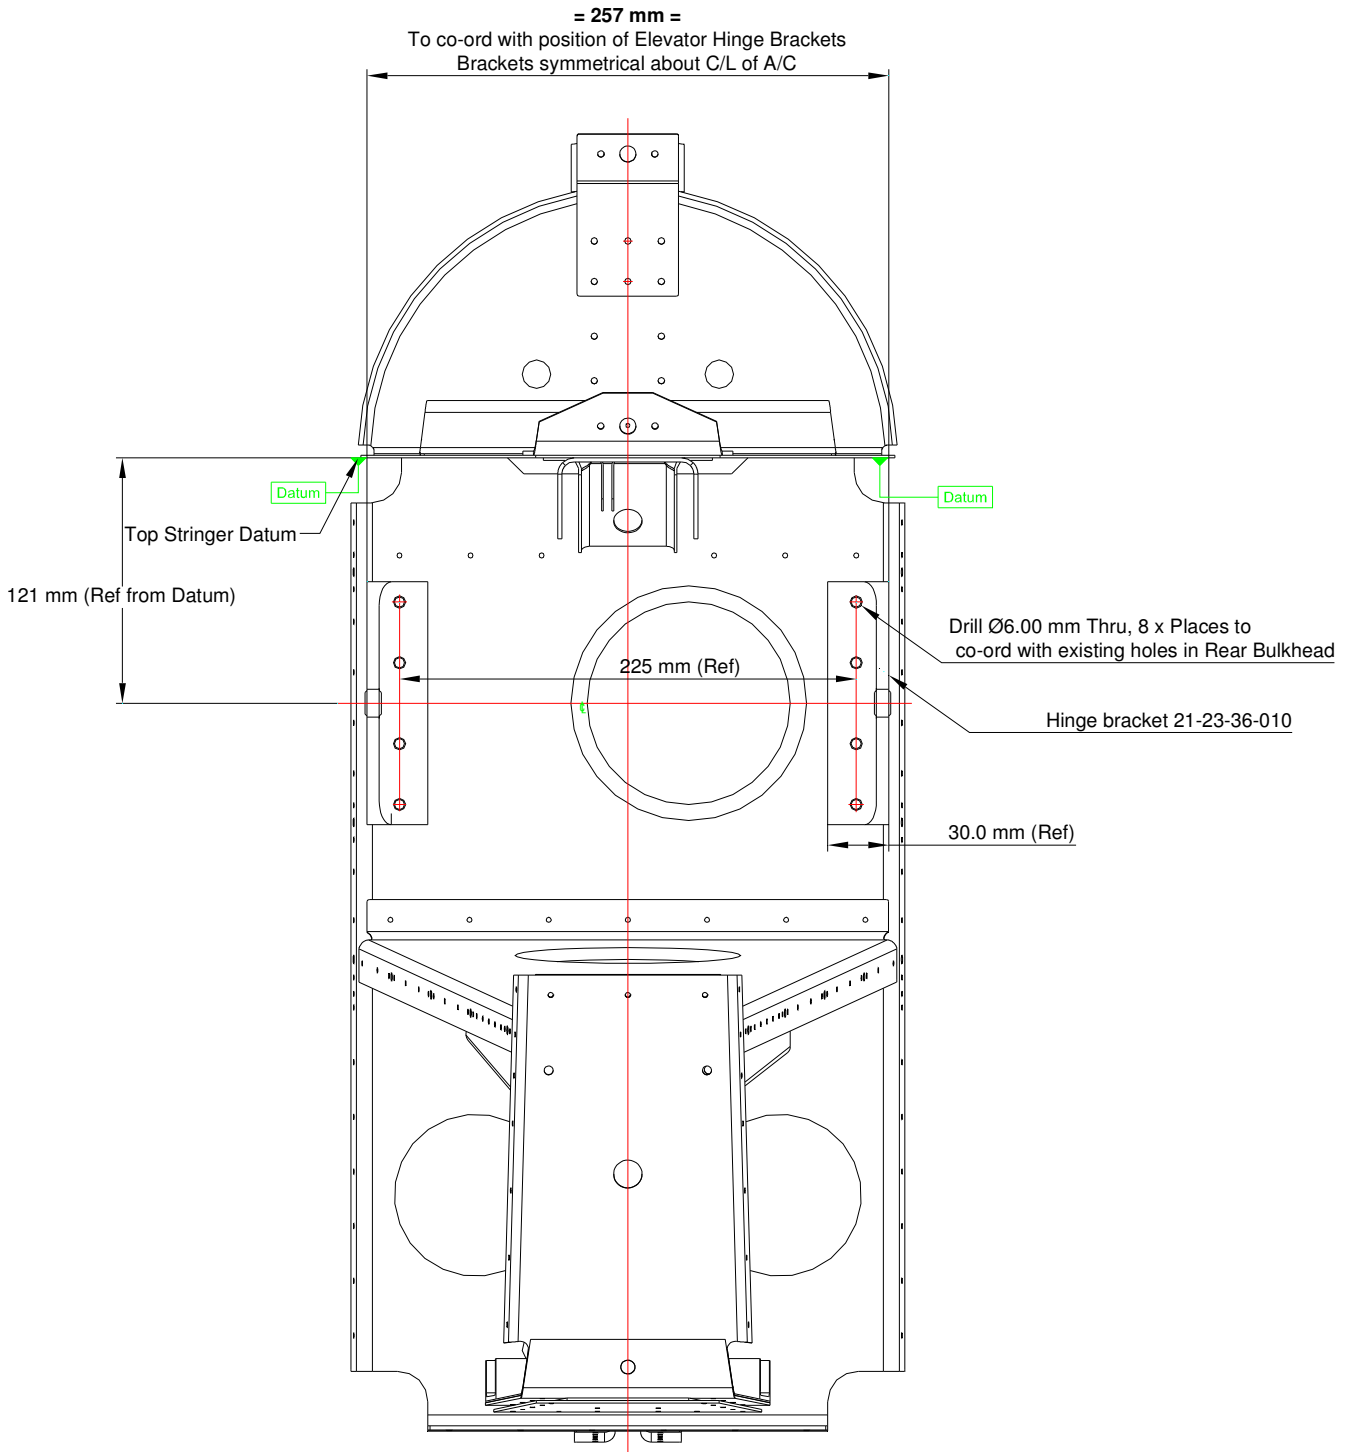

Figure 2-1
- ii) With reference to Figure 2-1 determine the distance between the outer faces of the existing 21-23-36-000 brackets. The correct design distance is the distance of 257 mm shown on figure 2-1.
- ii) The installed geometry to be achieved is shown in figure 2-1. This geometry is now jig controlled and the dimensions do not have a tolerance band. It is recommended that a locally made jig fixture be produced to ensure that the required geometry is achieved.